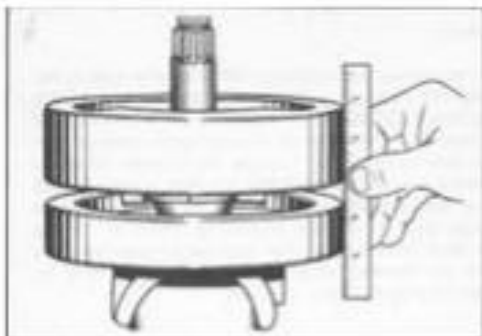

Figure 3-38. Sparing Flywheel Faces
ASSEMBLING FLYWHEELS (Figure 3-38)
2. Position right flywheel assembly in vise, crank pin up. Wipe crank pin taper clean. Slip bearings and connecting rods over crank pin with forked rod to rear cylinder. Wipe crank pin hole in left flywheel clean and dry. Install left flywheel and tighten nut lightly. Hold steel straightedge along outer face of wheel rims at 90 degrees from crank pin as shown in Figure 3-38. Tap outer rim of top wheel until wheels are concentric. Tighten nut, recheck with straightedge at frequent intervals. Use soft metal hammer to realign wheels. To prevent flywheel assembly from turning in vise while tightening nut, insert a rod 5 in. long and about 1/2 in. in diameter through holes in flywheels and between vise jaws so that rod bears against some part of the vise.